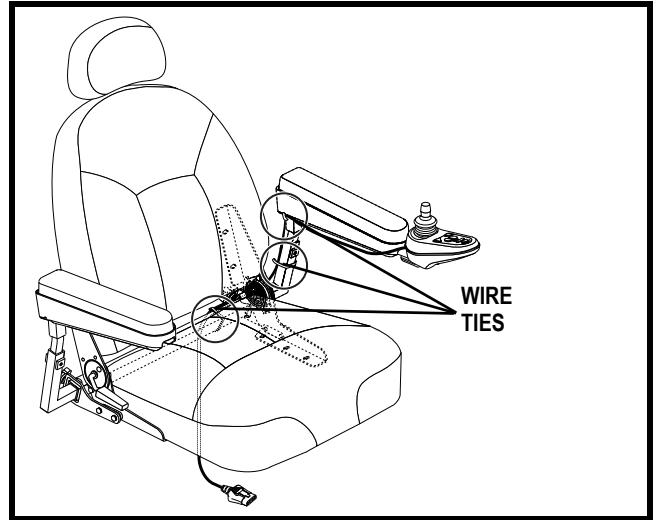

Figure 16. Select 6 with Power Seat Controller Routing
5. Lift the armrest straight up, then route the controller harness and secure with wire ties as shown in figure 16.